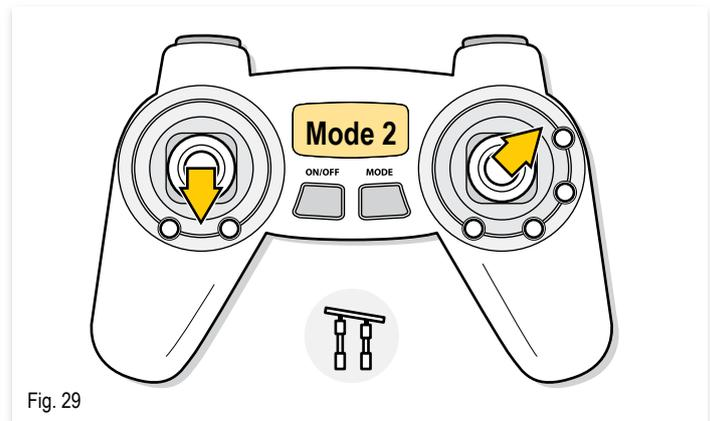

Fig. 29
3. Keep the THROTTLE/RUDDER lever at zero and move the AILERON/ELEVATOR lever diagonally into the top right corner. See [Fig. 29].